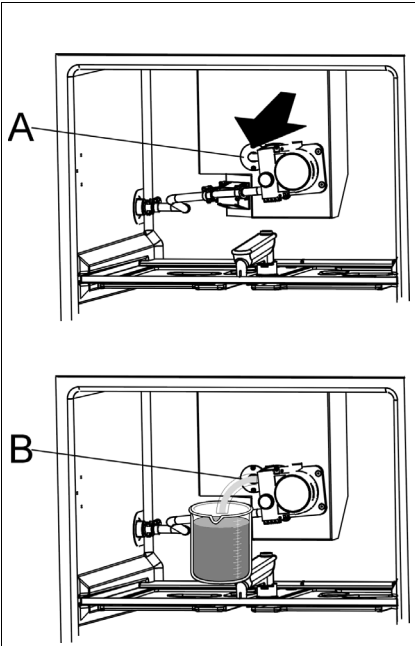

Fig. 22: Calibrating sample volume
3. Remove the pump hose already installed from the hose fitting (→ Fig. 22, item A) and guide it into the beaker prepared (→ Fig. 22, item B).
13. Then feed the pump hose back into the hose fitting until the stop (→ Fig. 22, item A).